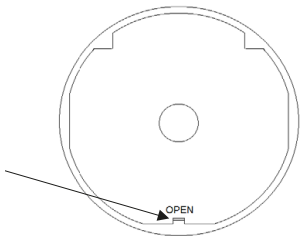

Fig. 1
- Open the hinged LED plate by releasing the tab labelled "OPEN" (see Fig. 1)